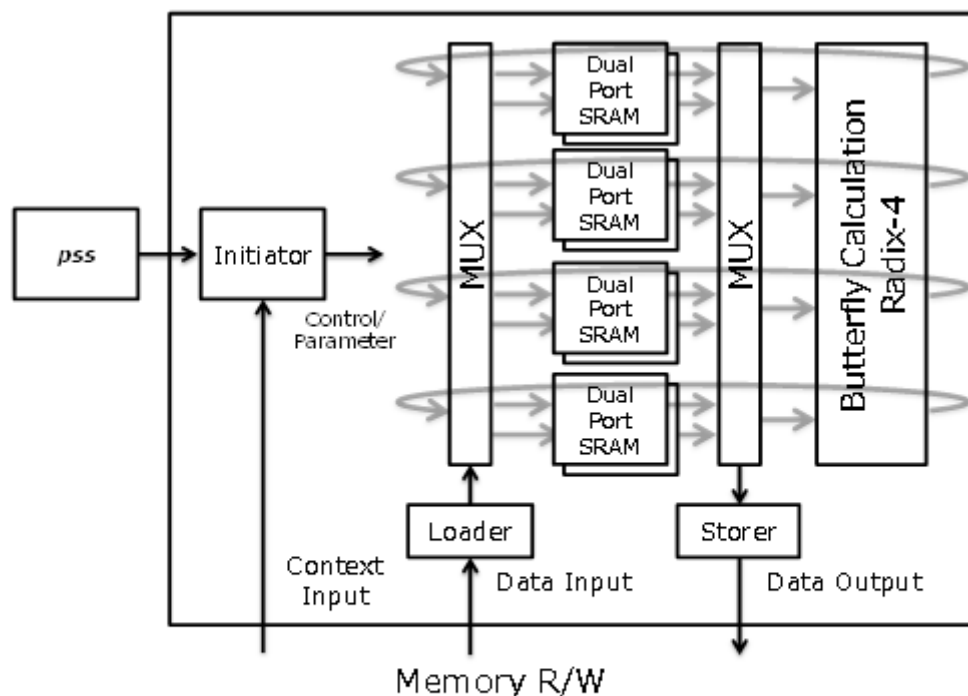

Figure 1 **SigSort** Block Diagram
- The **SigSort** core operates as a pipeline, as shown in Figure 1. An Initiator retrieves parameters from the command list in memory and controls the overall process.